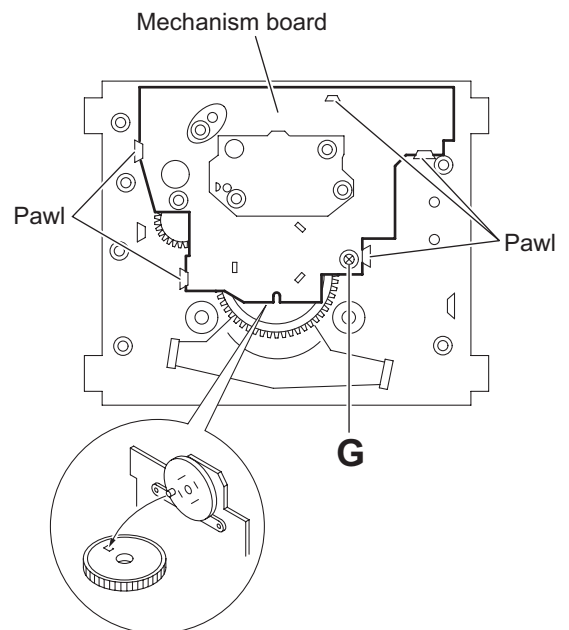

Fig.17
3.2.8 Removing the mechanism board (Fig.17)